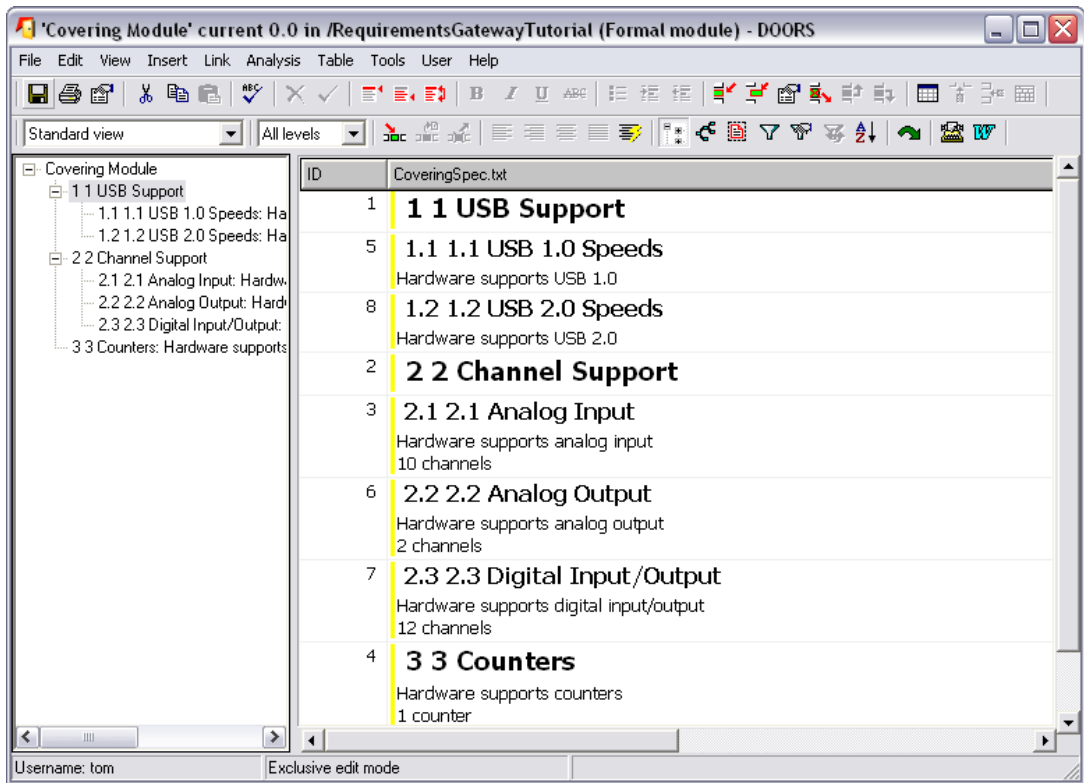

Figure 10-9. CoveringSpec.txt in DOORS
10. Double-click **Covering Module** to display the module in the Formal Module window, as shown in Figure 10-9.